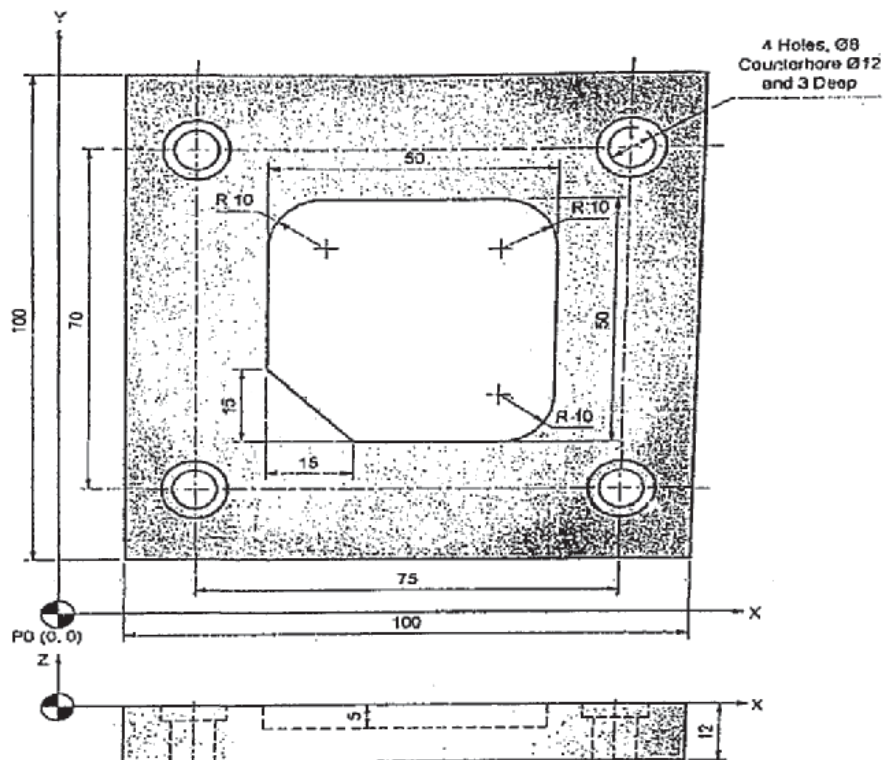

Fig. 4a
- Q4) a)** Write a manual part program to machine the contour for the component shown in fig. 4a. and drill a hole. The thickness of component is 18mm. Assume suitable data. [12]